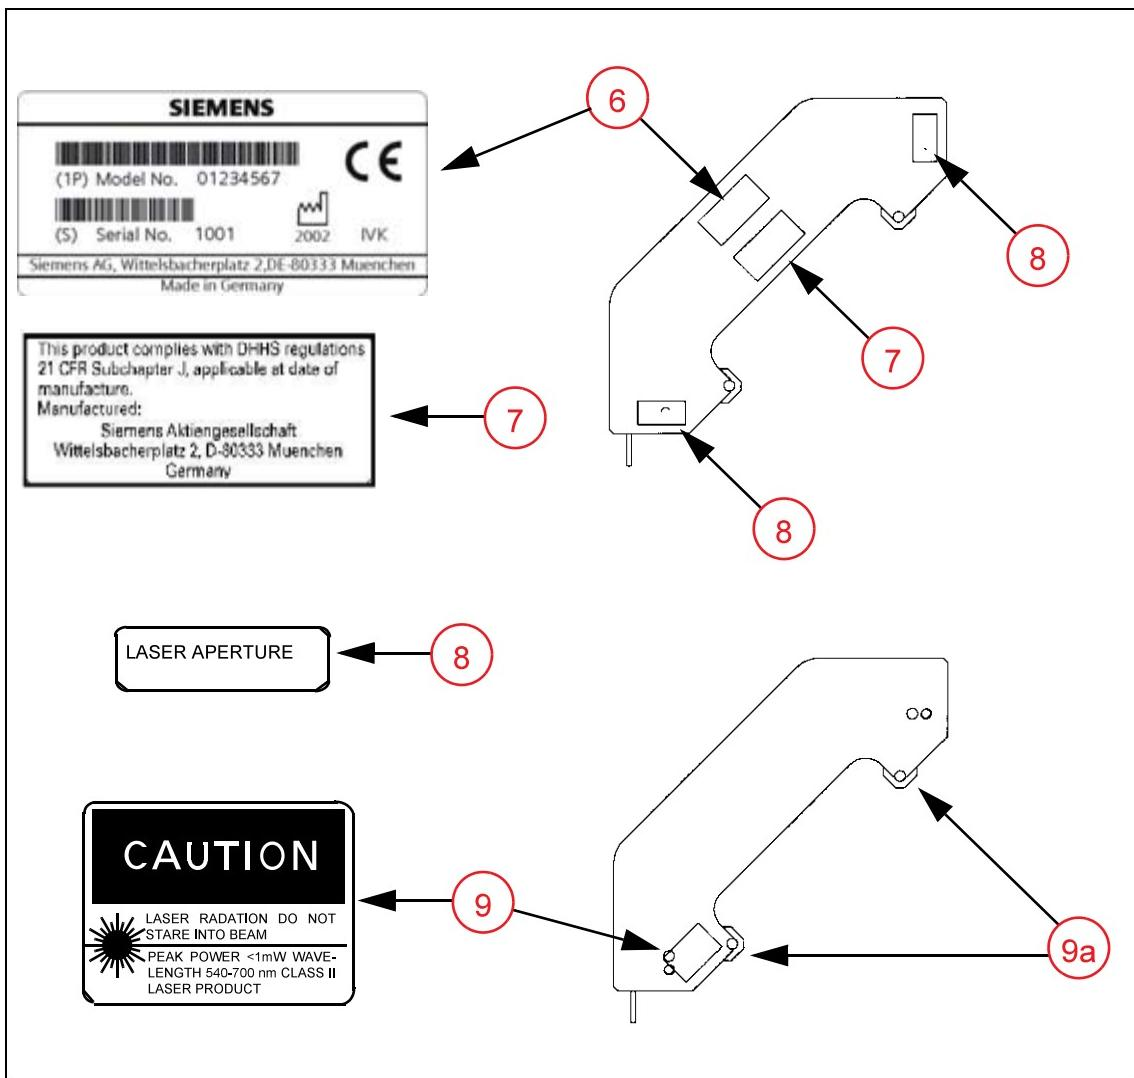
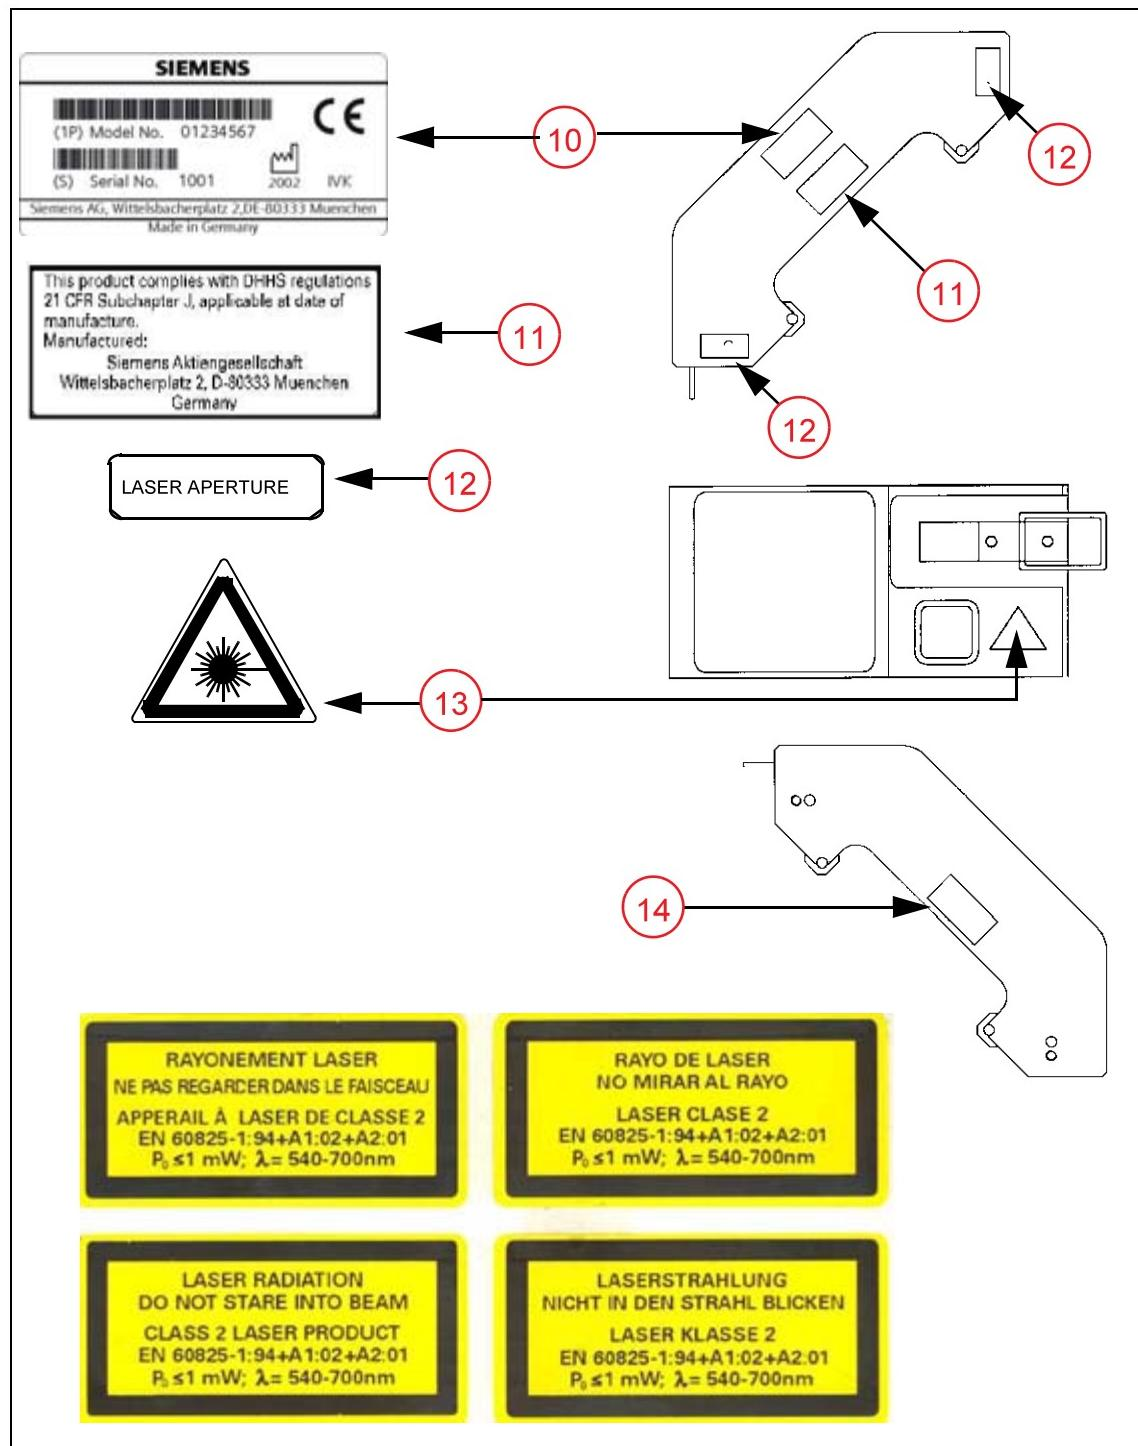

Fig. 4: Affixing labels for the U.S.A.
Fig. 5: Affixing labels for the rest of the world
- Affix labels (8/Fig. 4 / p. 8) and (9/Fig. 4 / p. 8).
- Labels (6/Fig. 4 / p. 8) and (7/Fig. 4 / p. 8) are already affixed.
- Affix labels (13/Fig. 5 / p. 9) to the locations indicated.
- Affix label (14/Fig. 5 / p. 9) in the local language.
- Labels (10/Fig. 5 / p. 9) and (11/Fig. 5 / p. 9) are already affixed.
- For Great Britain only: Also affix labels (12/Fig. 5 / p. 9).
- Check the labeling of the laser light localizer according to (Fig. 4 / p. 8) or (Fig. 5 / p. 9) of chapter 2.